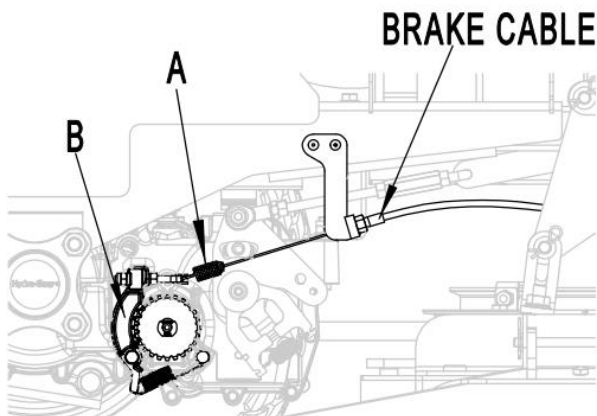

Figure 23
7.7.2 Locate the brake spring (A, Figure 23). Gears in the brake arm(B) meshed into the gears of the brake disk. Adjust the nut on the spring adjustable lever. Ensure that the spring has an extension of 1/2"(12mm) when it is in the free state. Use the same method to adjust the brake adjustable lever.